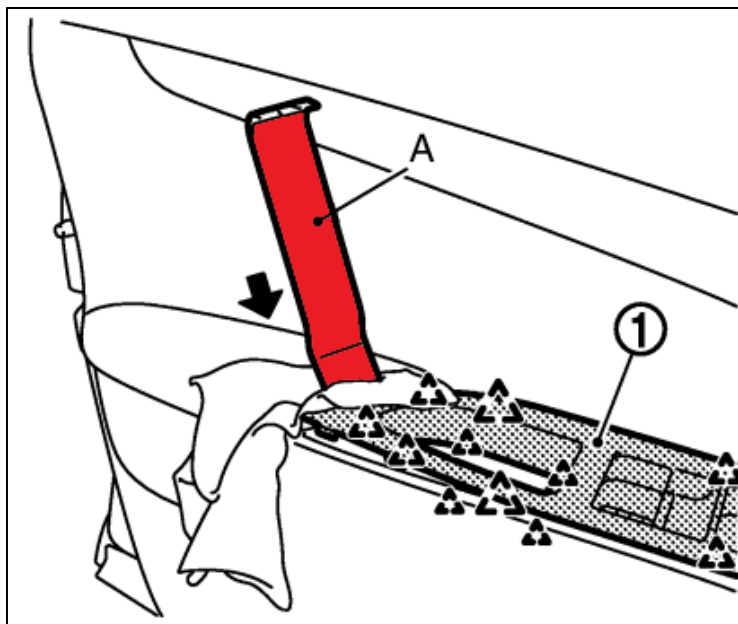

Figure 57
4. Remove the Door Control Panel with a Trim Removal Tool. *Figure 57.*